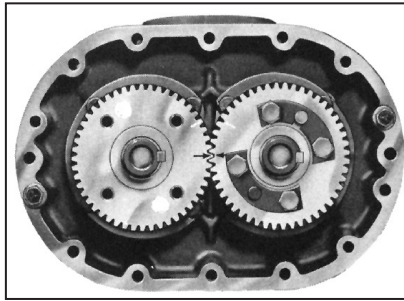
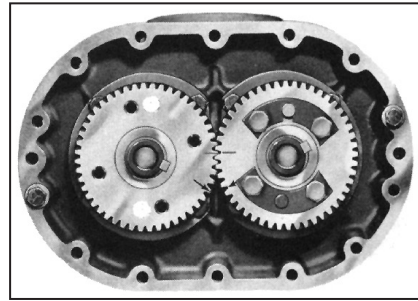

Figure 13 - Keyways in line and timing marks matched
Figure 14 - Timing marks advanced 3 teeth (Reference marks aligned)
- a. Align timing marks on gears (figure 13). Rotate drive gear clockwise approximately three teeth and mark a matching reference line on each gear as shown in figure 14. This gear position is necessary so rotors will clear and not jam. Do not allow the gears to move from the matched reference line while pulling. Use a light rocking motion to insure that the lobes have not jammed. Remove driven gear first then drive gear.
13. Lubricate shafts and install driver gear (right hand helix) on drive rotor (left side). To install driven gear, align reference marks as shown in Figure 14. Install driven gear carefully to avoid mashing any teeth when engaging opposite gear.
14. Install washers (25) and flat head Allen screws (29).
17. Install rotor housing (3) and secure with four screws evenly spaced.
25. Lay the unit down with the drive gear on the left. Using feeler gauges take interlobe readings and record on each side of housing as indicated in Figure 13. By removing or adding shim behind the helical gear, it rotates as it is moved in or out and the driven rotor turns with it, thus changing the clearance between rotor lobes. Changing the shim thickness .006" (.16 mm) will change the rotor lobe clearance .003" (.08 mm) or one-half the amount.